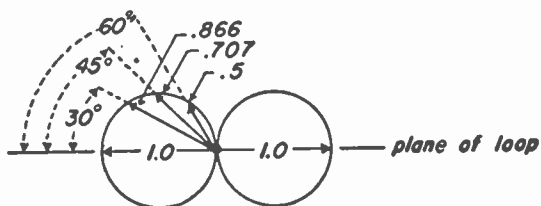

Fig. 3.
If equation (2) be plotted on rectilinear coordinates for all values of θ between 0 and 360 degrees, the resulting curve of response voltage is the familiar figure-of-eight or "loop characteristic" shown in Figure 3.
From a consideration of Figure 3 it will be seen that if the loop be rotated ± 30 degrees from that position giving maximum signal, the strength of signal in the indicator (head phones, meter, or whatever is used) will vary only from 100 per cent to 86.6 per cent, a change which is hardly perceptible in the head phones, and certainly the indication is too broad to give a good "bearing" regardless of the type of signal reproducer or indicator used. It is for this reason that the null point or point of zero reception is used for taking bearings since turning the loop a degree or so either side of the null produces a *large* percentage change in the received signal. Thus when the signal is at a null point the loop lane is broadside or perpendicular to the wave front of the incoming signal. A pointer attached to the loop-rotating shaft will refer the bearing to a reference line such as the "keel line" or "lubber line" of a ship or to true north in cases where a gyro-compass repeater card is the direction-finder scale.